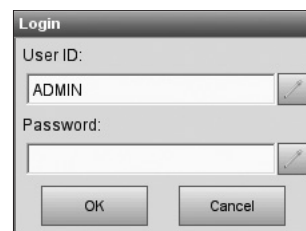

Fig. 3-3 Login
3. Enter the User ID and password (factory setting **ADMIN/ADMIN**) when prompted (Fig. 3-3) to access the **<Time and Date>** screen.